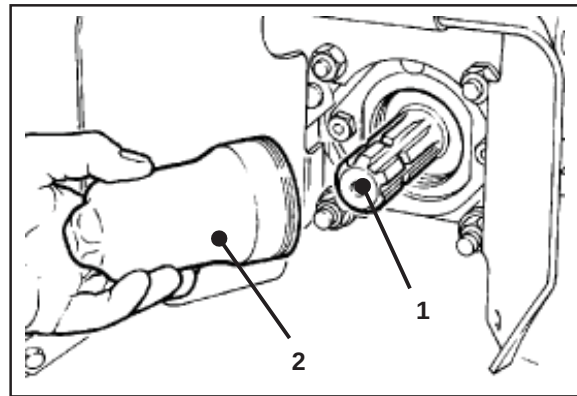

Fig. 54
The PTO shaft, (1, Fig. 54) at the rear of the tractor has six splines and a diameter of 35 mm (1 3/8 in) with an annular groove for positive fixing of implement couplings. A removable cap (2) protects the splines and the operator when the shaft is not in use. Reinstall the PTO shaft cover (2, Fig. 54) when not in use.